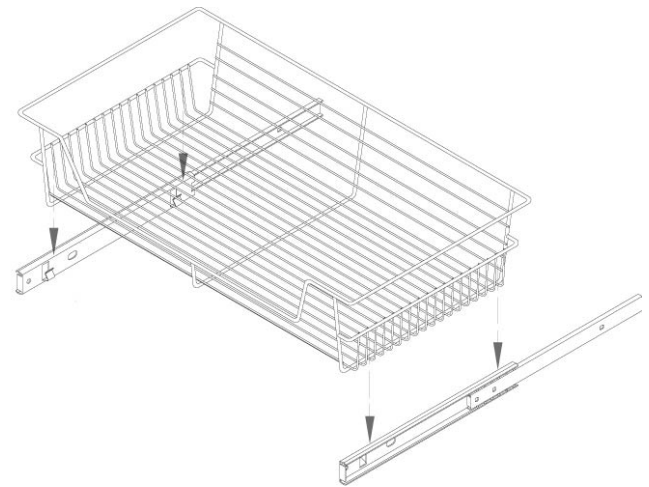
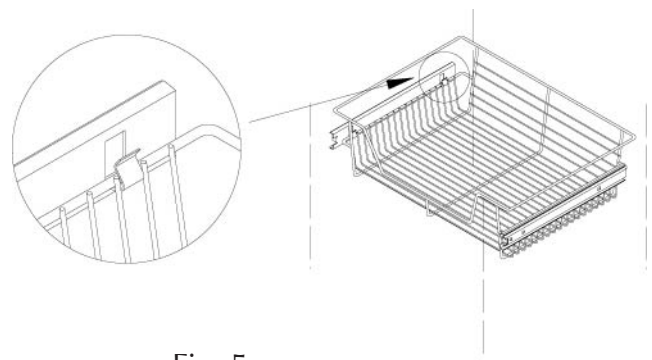

Fig. 4
Fig. 5
4. After mounting all slides in place and positioning the shelving tower(s) in final location, hang basket(s) on clips/hooks (Fig. 4) from second (lower) rim of basket. (Fig. 5 shows close up of clip/hook on basket rim. Clip/hooks have plastic removable “stays” to hold baskets in place on hook.)